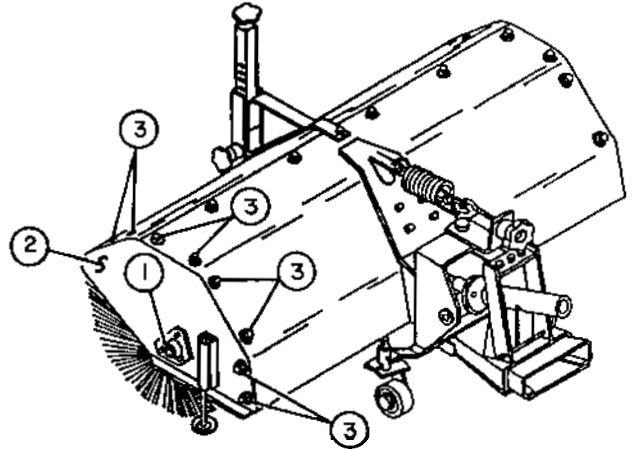

FIGURE 1
- b) Remove the 1/2" x 1 3/4" bolt (fig.1, item 1) from each broom side plate (fig.1, item 2) and remove the eight bolts (fig.1, item 3) which secures each side plate to broom housing.